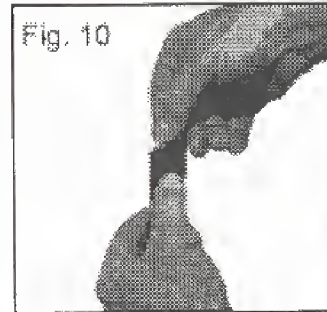

Fig. 10
4. Load the magazine with cartridges by pushing the cartridge down and sliding it rearward with your thumb. (See Fig: 10)